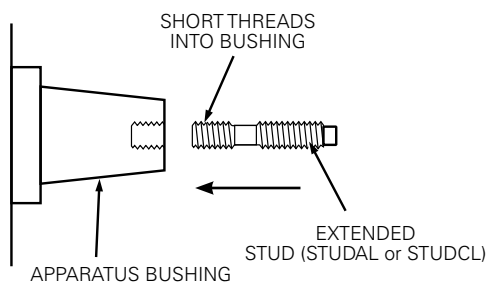

Figure 25. Line illustration of bushing stud installation.
- Thread the shorter threaded end of extended stud into the apparatus bushing until hand tight. Refer to Figure 25.